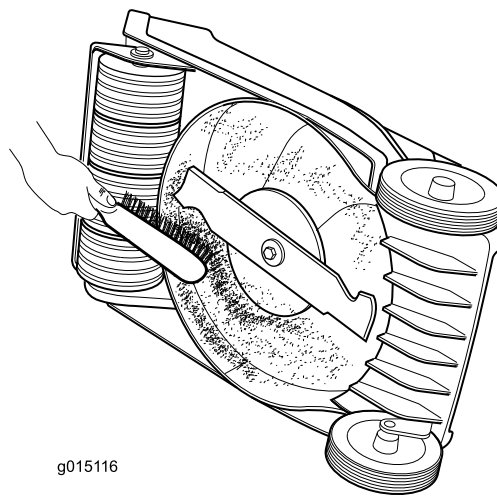

Figure 17
- Clean the underside of the machine housing. Remove dirt and grass clippings with a hardwood scraper or brush (Figure 17).